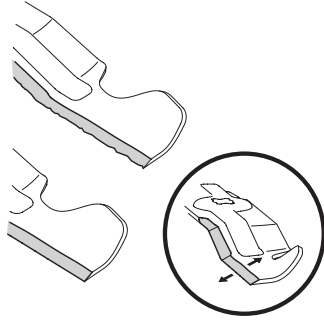

Figure 25
5. To properly sharpen the cutting blade, remove equal amounts of metal from both ends of the blade along the cutting edges, parallel to the trailing edge, at a 25°- to 30° angle. Always grind each cutting blade edge equally to maintain proper blade balance. See Figure 25.